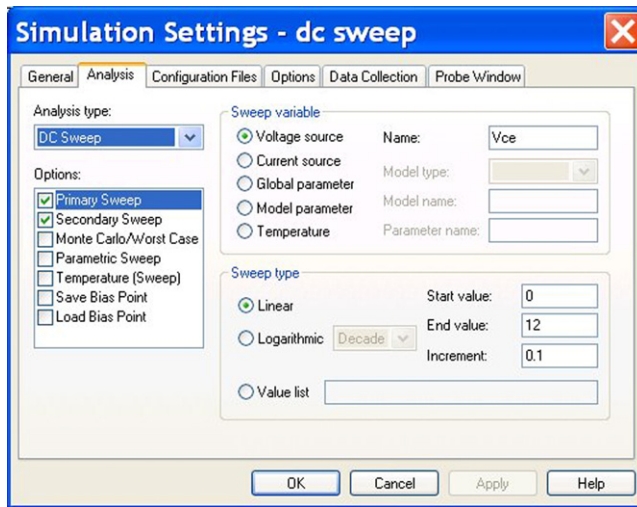

FIGURE 3.23
5. Create a simulation profile, PSpice > New Simulation Profile, and select the Analysis type to DC Sweep. For the Primary Sweep, which is shown by default, select the Sweep variable to be a voltage source and name the source Vce. The Sweep type is Linear with a Start value of 0 V, an End value of 12 V and an Increment of 0.1 V (Figure 3.23). Click on Apply but do not exit the Simulation Profile.